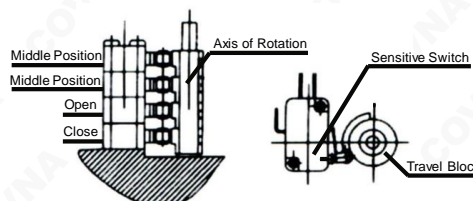

Figure 7
2. Adjustment of middle position switch (Figure 7)